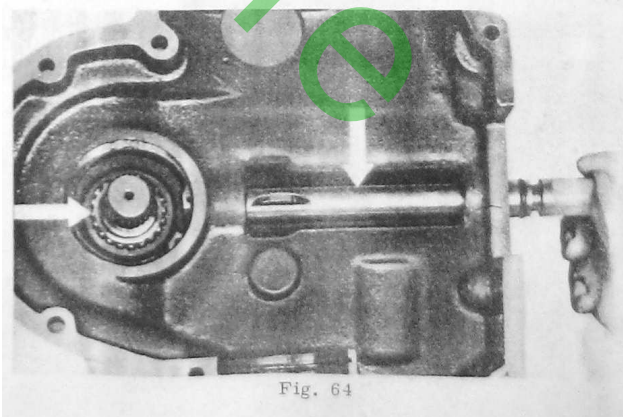

Fig. 64
1. Place sliding sleeve Fig. 64, left, on half axle and insert simultaneously disengaging shaft (Fig. 64, right) with round cord ring in bore. The eccentric on the disengaging shaft should engage the sliding sleeve.